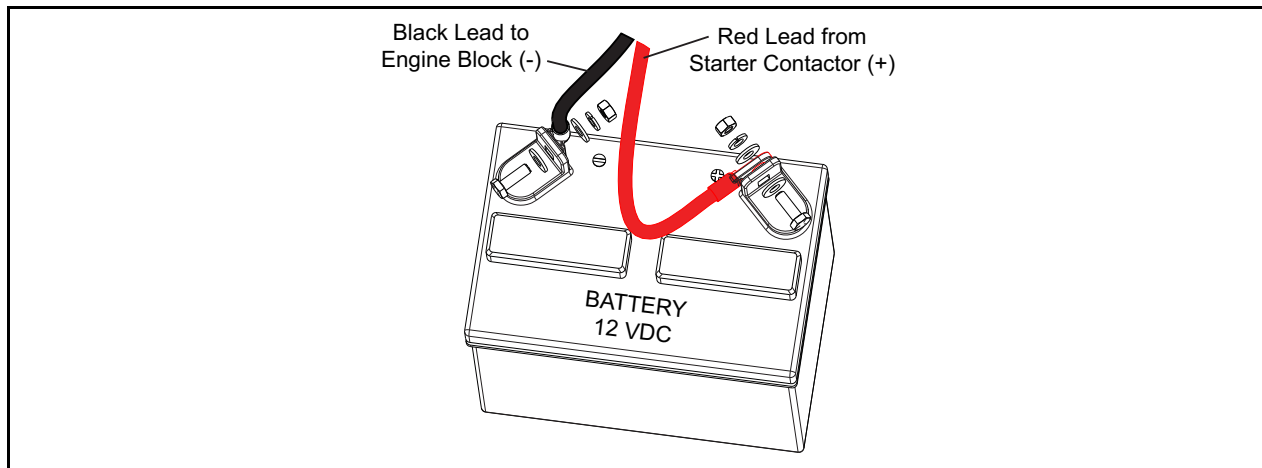

Figure 6-3. Battery Cable Connections
9. Connect the red battery cable (from starter contactor) to the battery post indicated by a positive, POS or (+) and secure it using the bolt, washers and nut provided with the loose parts (Figure 6-3.).
10. Connect the black battery cable (from engine ground) to the battery post indicated by a negative, NEG or (-) and secure it using the bolt, washers and nut provided with the loose parts (Figure 6-3.).